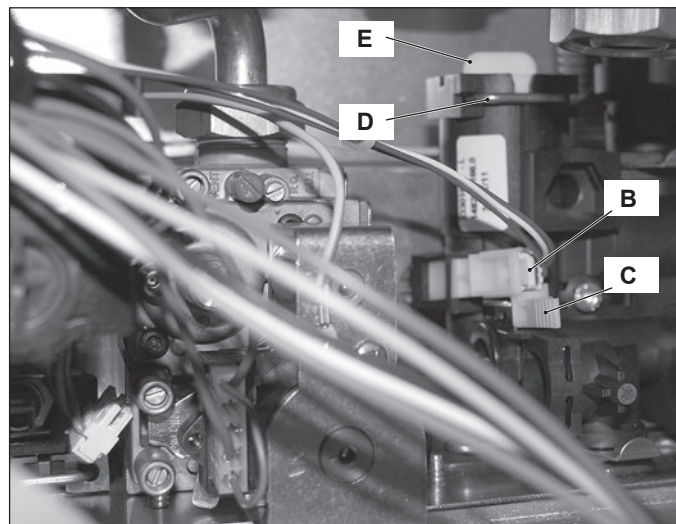

Figure 14.3
- 2 Remove the sensor holder "C" and disconnect the connectors "B" (Figure 14.3).
- 3 Remove the fork "D" and pull up the flow switch plug "E" (Figure 14.3) with the help of a screwdriver.